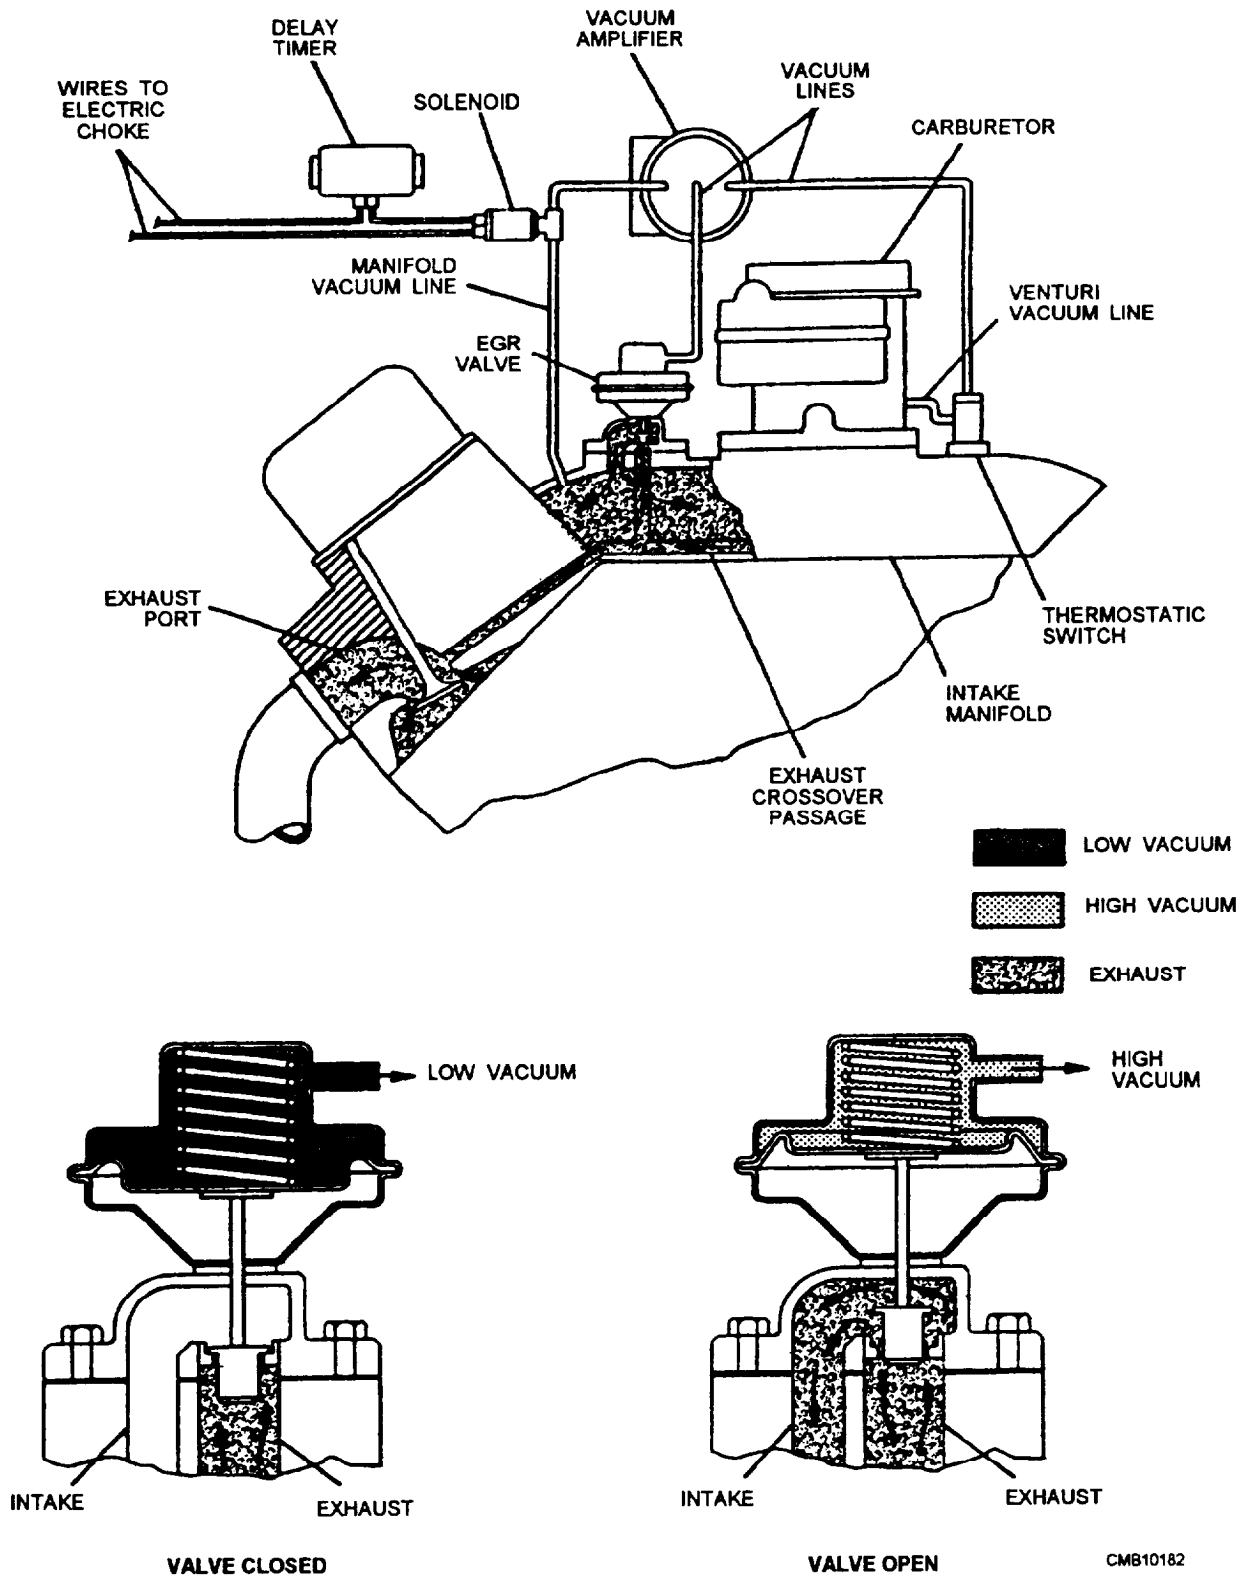

Figure 4-53.—EGR system.
to produce oxides of nitrogen (NO_x). The exhaust gas recirculation (EGR) system (fig. 4-53) helps to control the formation of oxides of nitrogen by recirculating a portion of the exhaust gases back through the intake manifold, resulting in cooler combustion chamber temperatures.
- The second method uses a vacuum port that is directly in the carburetor venturi (fig. 4-53). The carburetor venturi provides vacuum for the EGR valve any time the engine is running at high speed. The problem with using venturi vacuum is that it is not strong enough to open the EGR valve. So to make it work, manifold vacuum is used to operate the EGR valve through a vacuum amplifier. The vacuum amplifier switches the manifold vacuum supply to the